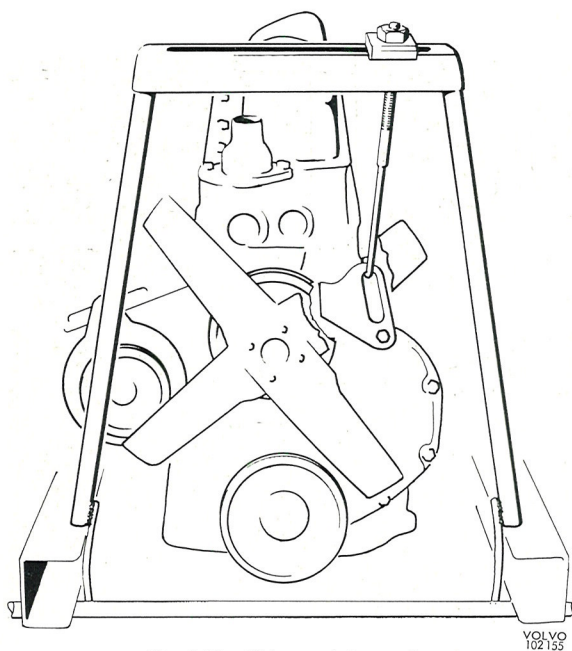

Fig. 6-13. Lifting tool for engine
1. Install the lifting tool SVO 2727 according to Fig. 6-13. Fix the plate with the upper screw (no flat washer) for the timing gear casing. Raise the engine until the weight is taken off the front engine mountings. Remove the hub caps and loosen a couple of turns the nuts for the front wheels.